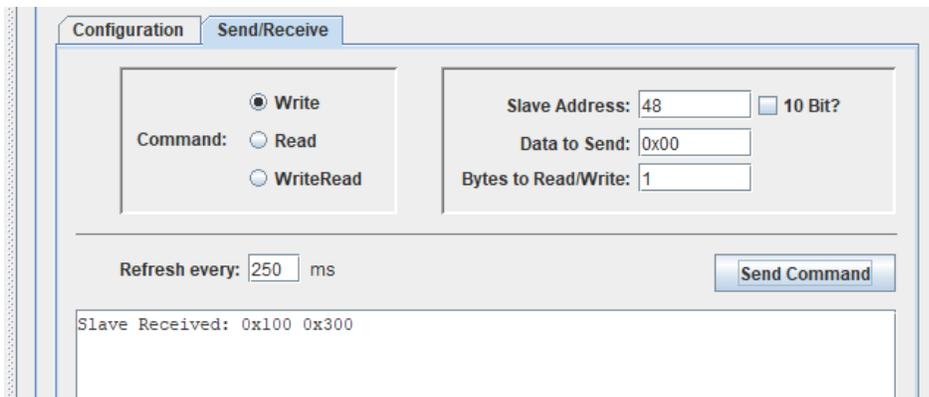

Figure 5-17 Setup Address for Temperature Sensor
1. As shown in **Figure 5-17**, send a “Write” command to setup the address pointer. Write 0x00 to read from the Tmsb register on the ADT7420